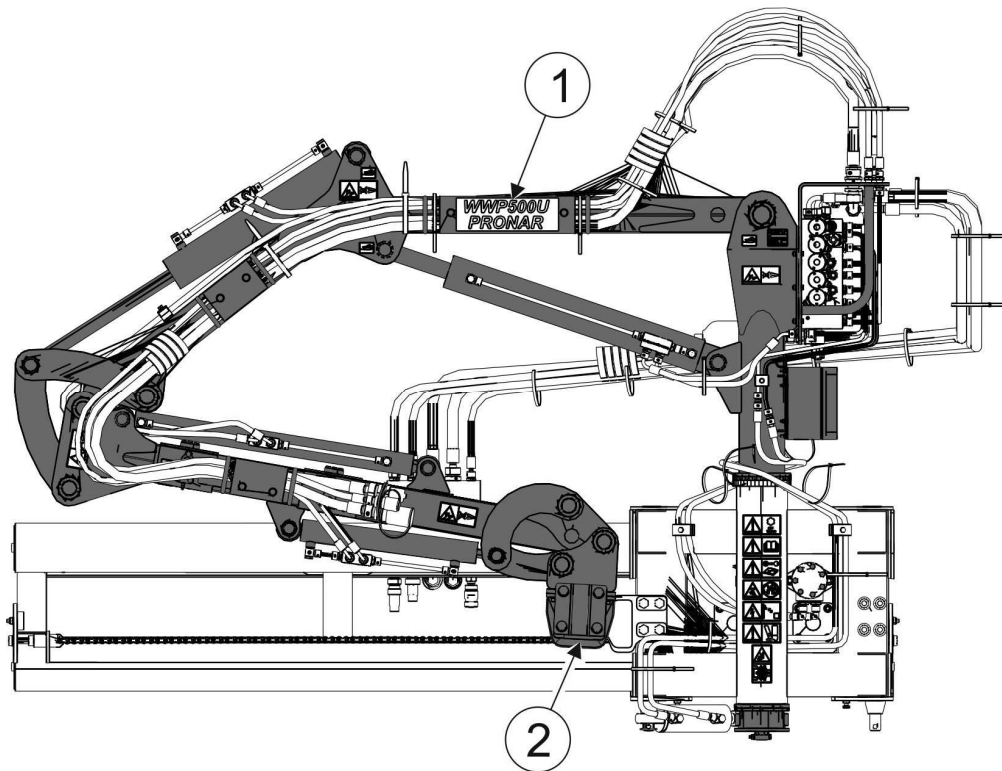
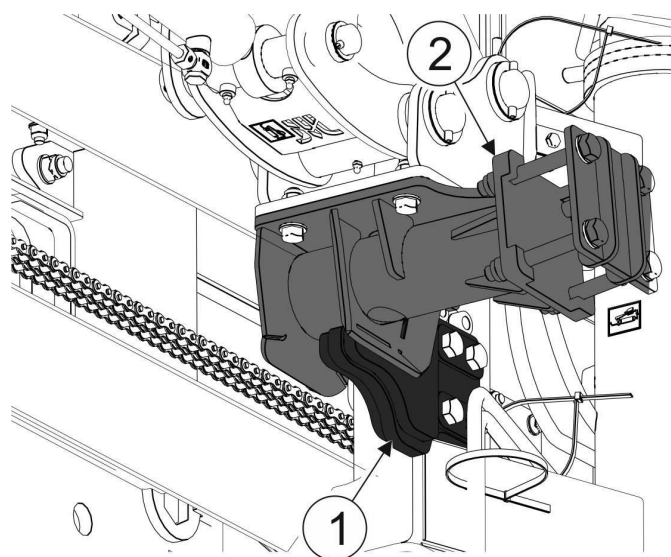

FIG. 4.2 Transport position
FIG. 4.3 Mounting of the working head connection on the working head hitch.
For transport to place of work and back, set the multifunction arm to transport position (FIGURE 4.2). In this position, working head connection (2) is mounted on working head hitch (1) (FIGURE 4.3)